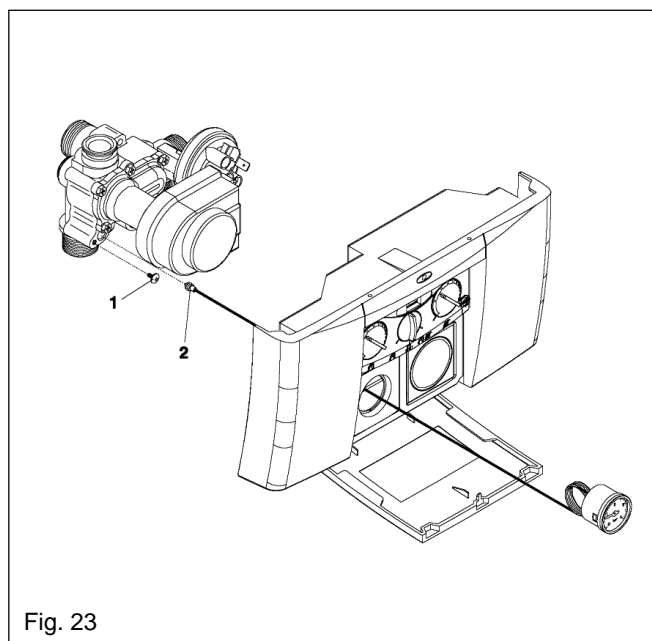

Fig. 23
**6.9 PRESSURE GAUGE (see fig. 23)**